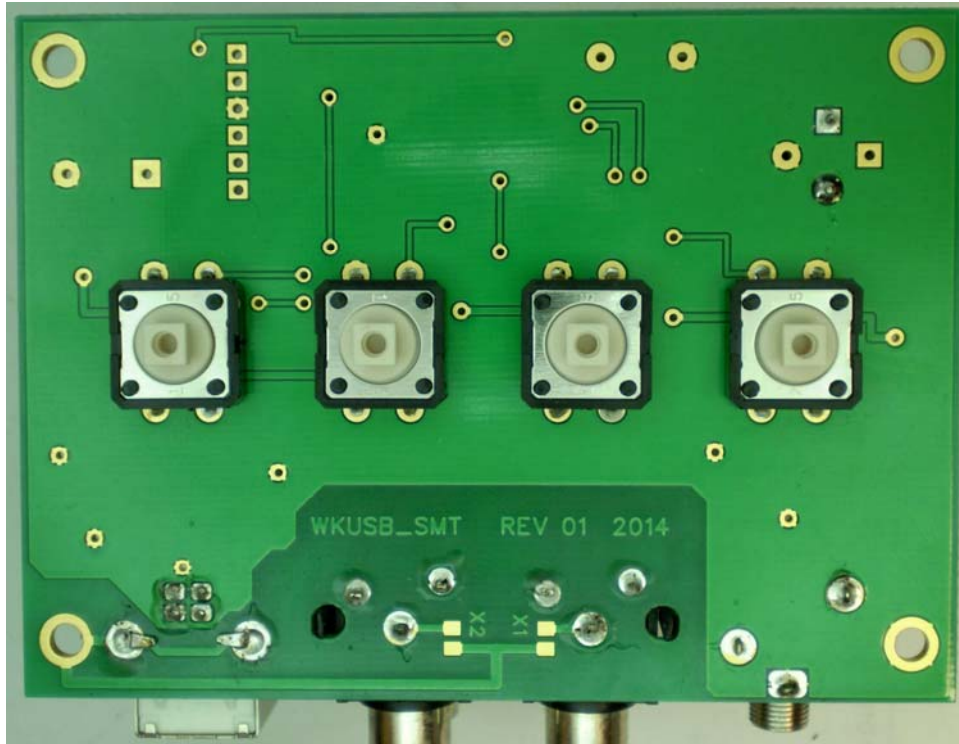

Figure 3 – Pushbutton switches in place
- 6) Now install four pushbutton switches on the **!!!BACK!!!** side of the PC board as shown in figure 3. Make sure the switches are flush to back of the board before soldering from the front of the board. After soldering, attach the square push-button caps, red on S1 which is to your left when the phono jacks are away from you, switches facin up. Press firmly until they snap in place, just a small amount of force is required.